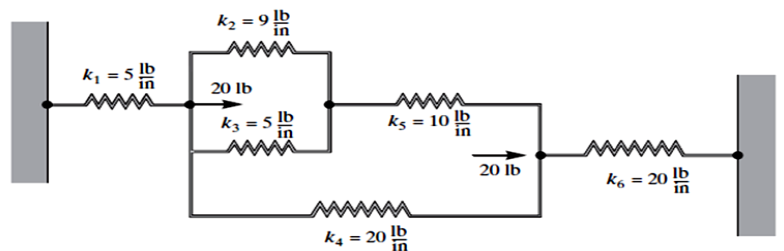

Fig. 1
3. For the spring system shown in the accompanying Fig. 1, determine the global stiffness matrix and calculate displacement of each load point. [[CO2](Estimate/HOCQ)]